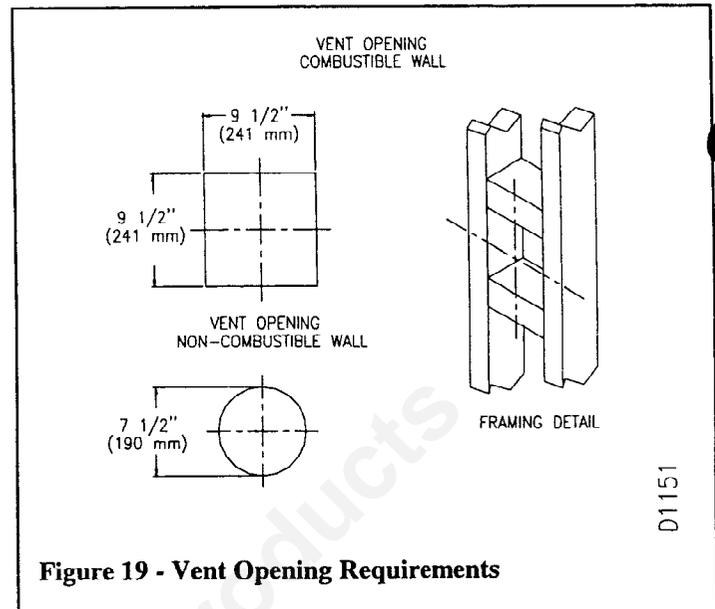
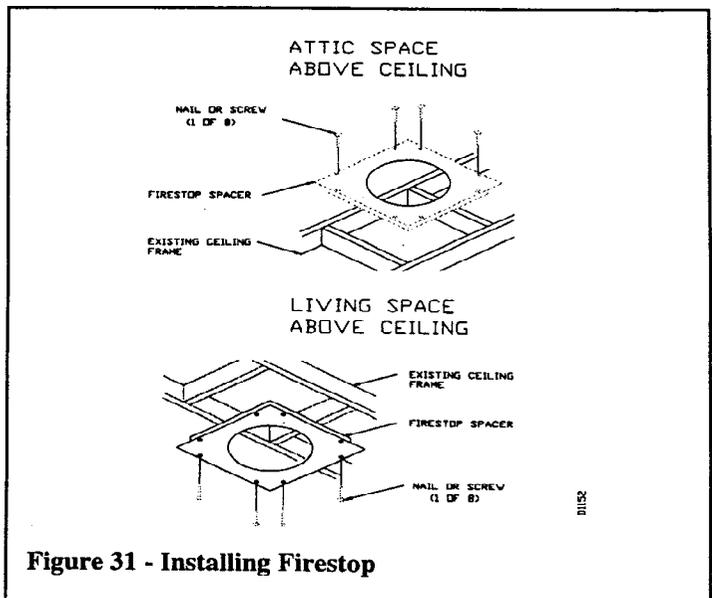

Figure 19 - Vent Opening Requirements
Figure 31 - Installing Firestop
1. Cut a 9 1/2" hole in the ceiling using the locating hole as a center point. The opening should be framed to a 9 1/2" x 9 1/2" (241mm x 241mm) inside dimensions, as shown in Figure 19 on page 9 using framing lumber the same size as the ceiling joists. If the area above the ceiling is an insulated ceiling or a room, nail firestop from the topside. This prevents loose insulation from falling into the required clearance space. Otherwise, install firestop below the framed hole. The firestop should be installed with the flanges set into the framing and secured with no less than two nails per side (see figure 31).
3. Cut a hole in the roof using the locating hole as a center point. (Cover any exposed open vent pipes before cutting a hole in the roof). The 9 1/2" x 9 1/2" hole must be measured on the horizontal; actual length may be larger depending on the pitch of the roof. There must be a 1" clearance from the vent pipe to combustible materials. Frame the opening as shown in Figure 19, on page 9.